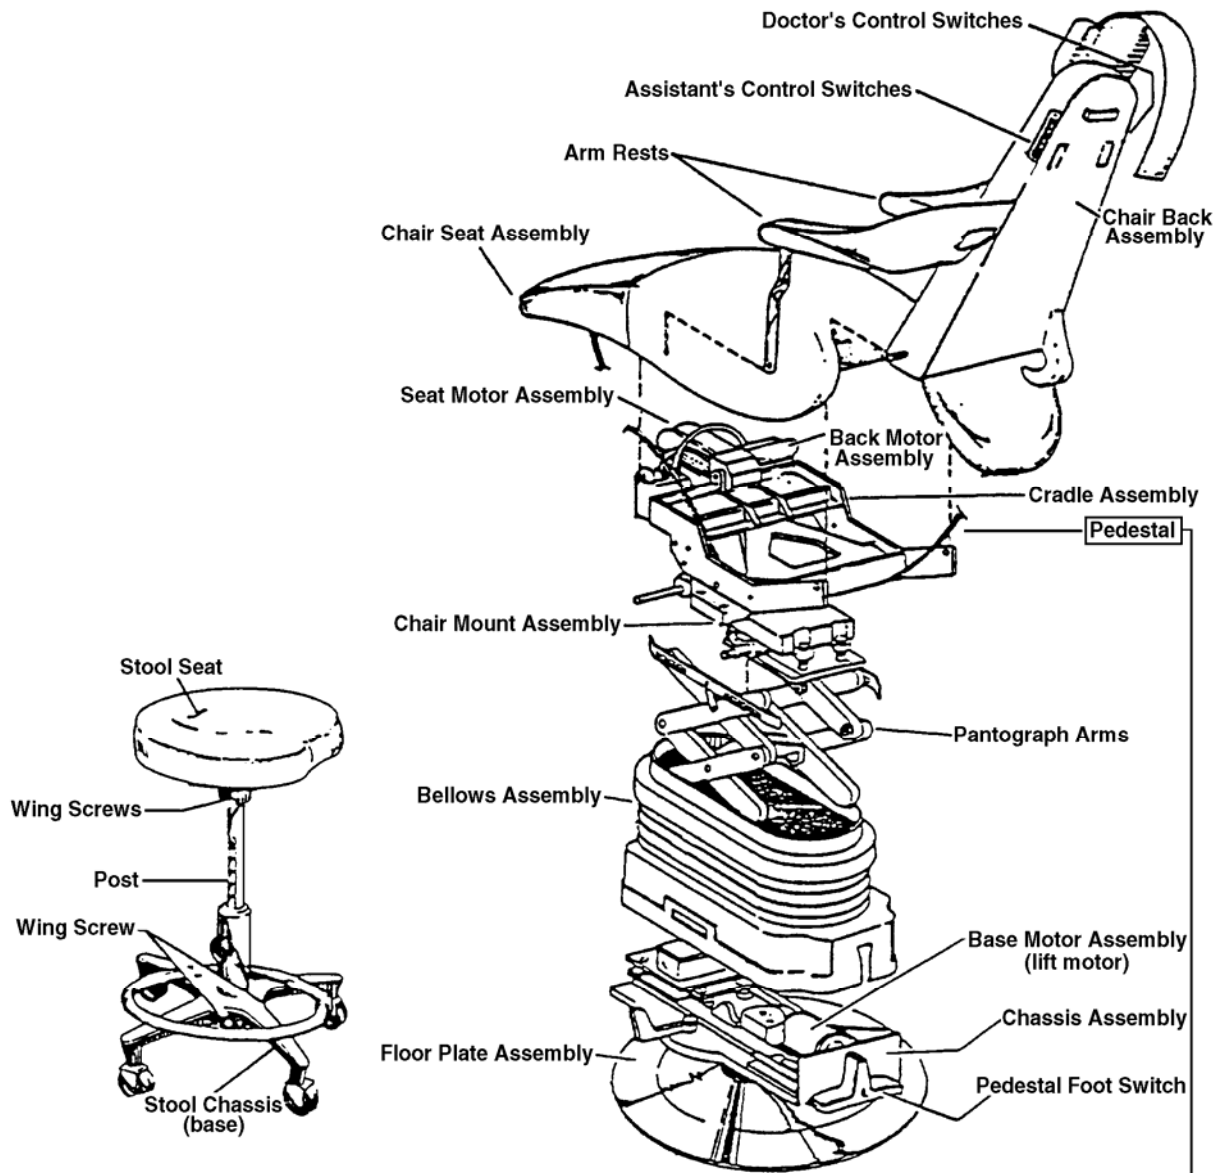

Figure 1-1. Dental chair and stool components.
a. **Dental Chair and Stool Component Overview.** Refer to figure 1-1. The dental chair and stool consist of the following components.
- (1) Floor plate assembly.
- (2) Chassis assembly that houses the base motor assembly, the foot switch, and the brake pedal.
- (3) Bellows assembly.
- (4) Pantograph arms.
- (5) Chair mount assembly.
- (6) Cradle assembly that houses the chair back motor, the chair seat motor, and the AUTO/MANUAL mode toggle switch located in the junction box.
- (7) Chair seat assembly.
- (8) Chair back assembly that houses the control buttons.
- (9) Arm rests.
- (10) Stool saddle seat.
- (1) By using the foot switch located on the pedestal.
- (2) By using the doctor's lowermost switch which lowers the chair to the exit position. You cannot raise the chair with this switch.
e. **Doctor's Controls.** Refer to figure 1-1. The doctor's controls are located on the back rest on the right side of the chair as viewed from the back.
(1) The uppermost switch is the back adjustment.
(2) The center switch is for the seat adjustment.
(3) The bottom switch is for automatic operation. Depressing the switch downward returns the chair to the "exit" position. It lowers the chair completely; it raises the back, and tilts the seat forward.
f. **Assistant's Controls.** Refer to figure 1-1. There are two switches located on the assistant's side (left) of the chair back.
(1) They have the same function as the doctor's corresponding controls with the exception of the doctor's lowermost switch, for which the assistant has no match.
(2) Additionally, the AUTO/MANUAL mode toggle switch is located under the chair on the assistant's side at the front of the chair. The doctor's lowermost switch only operates if this toggle switch is set to AUTO.
g. **Pedestal Controls.** Refer to figure 1-1. There is one foot switch at the rear of the chair that can be operated from either side.
(1) It manually raises and lowers the chair.
(2) When operated from the doctor's side, pushing the foot switch forward raises the chair.
(3) When operated from the doctor's side, pushing the foot switch to the rear lowers the chair.